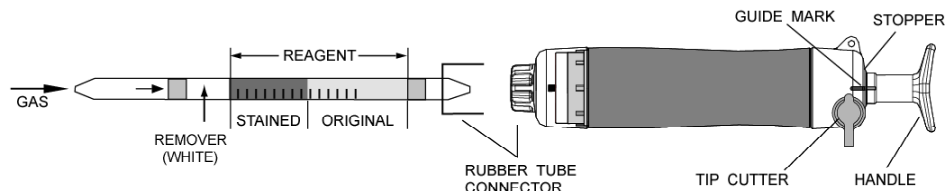

Fig.1
- ① Break both ends of detector tube.
- ② Insert the detector tube into aspirating pump securely as shown in Fig.1. (Arrow mark shall point to the pump.)
- ③ Align the guide marks on the shaft and stopper of the aspirating pump.
- ④ Pull the pump handle at full stroke until it locks and wait for 1 minute or until the completion of sampling is confirmed with the flow indicator of the pump (See descriptions about the flow indicator in the instructions of the pump).
- ⑤ Push the handle without removing the detector tube from the inlet, and air in the pump will be discharged perfectly. Then repeat the step ④ fourth again.
- ⑥ On completion of sampling, read the scale at the maximum point of the stained layer.
- ⑦ In case that the concentration is less than 0.1 ppm, push the handle without removing the detector tube from the inlet, and air in the pump will be discharged perfectly. Then repeat step ④ fifth. And multiply the reading value by 1/2.